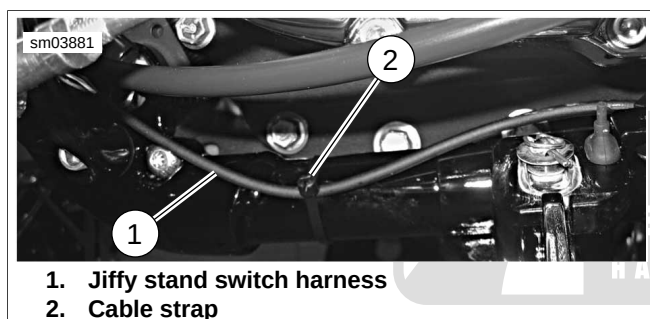

Figure 6-125. Jiffy Stand Switch Harness Routing
3. See Figure 6-125. Cut cable strap (2) securing jiffy stand switch harness (1) to frame under left side of engine.
- See Figure 6-125. Route jiffy stand switch harness (1) forward along frame under left side of engine. Secure harness to frame with **new** cable strap (2), making sure harness is routed on outboard side of frame as shown in the figure.